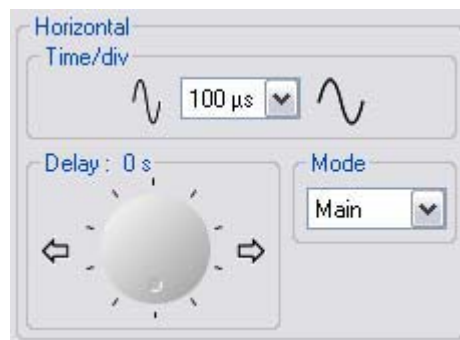

Figure D-811 – Soft Front Panel of the Horizontal System Controls
8. The horizontal controls allow you to adjust the horizontal scale and position of waveforms. The horizontal center of the screen is the time reference for waveforms. Changing the horizontal scale causes the waveform to expand or contract in the center of the screen. It provides functions of **Time Base**, **Delay**, and **Mode** for the horizontal scale adjustment. This is shown in Figure D-811.